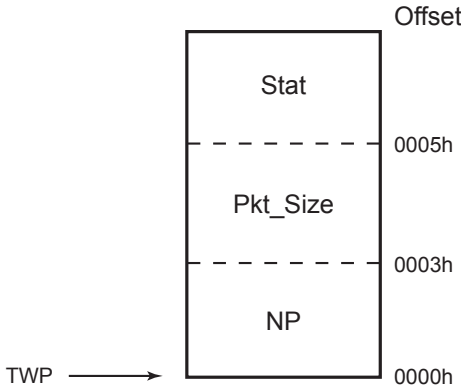

Figure 62. Descriptor Table Entries
The TxDMA module moves the next packet to be transmitted from EMAC memory into the TxFIFO. Whenever the polling timer expires, the TxDMA reads the High status byte from the Tx descriptor table pointed to by the Transmit Read Pointer, TRP. Polling continues until the High status Read reaches bit 7, when the Emac\_Owns ownership semaphore, bit 15 of the descriptor table (see Table 178 on page 295) is set to 1. The TxDMA then initializes the packet length counter with the size of the packet from descriptor table bytes 3 and 4. The TxDMA moves the data into the TxFIFO until the packet length counter downcounts to zero. The TxDMA then waits for Transmission Complete signal to be asserted to indicate that the packet is sent and that the Transmit status from the EMAC is valid. The TxDMA updates the descriptor table status and resets the ownership semaphore, bit 15. Finally, the Tx\_DONE\_STAT bit of the EMAC Interrupt Status Register is set to 1, the address field, DMA\_Address, is updated from the descriptor table next pointer, NP (see Figure 62 on page 294). The High byte of the status is read to determine if the next packet is ready to be transmitted.
The descriptor table contains three entries: the next pointer (NP), the packet size (Pkt\_Size), and the packet status (Stat), as displayed in Figure 62.